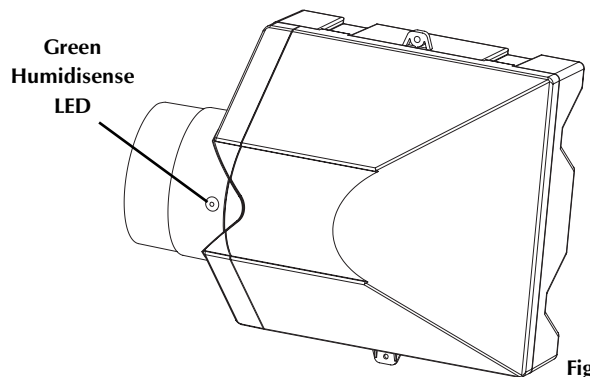

Figure 24
5. Depending on your furnace type the unit should turn on within approx 60 seconds of the furnace entering the HEATING cycle. You will know because the green "HUMIDISENSE" LED on the front of unit will turn on (fig 24.) If the unit does not turn on refer to the trouble shooting section in the Maintenance Guide.
7. After about 5 minutes of running turn your thermostat down so the furnace cycles off. IT IS IMPORTANT TO ALLOW THE FURNACE TO CYCLE OFF VIA THE THERMOSTAT AND NOT THE MAIN FURNACE SWITCH, AS ALL FURNACES WILL RUN A COOL DOWN TO ALLOW HEAT TO CIRCULATE OUT OF THE FURNACE HEATING CHAMBER. The humidifier will sense the temperature drop and shut off (this will occur depending on your furnace, from 60 seconds before the furnace shuts off to 60 seconds after the furnace shuts off.) You will know the humidifier has shut off because the green "HUMIDISENSE" LED on the front of the humidifier will shut off. (fig. 24) The off cycle of the "HUMIDISENSE" CONTROL IS ADJUSTABLE. See section "CUSTOMIZING HUMIDISENSE TO YOUR FURNACE" below if the humidifier does not shut off with your furnace.
4. Once the HUMIDISENSE control senses heat the humidifier will turn ON. You will know because the green “HUMIDISENSE” LED (fig. 24) on the front of the humidifier will turn ON.
6. After your furnace has completed the heating cycle and shut off (by the thermostat) the humidifier will cycle OFF. You will know because the green “HUMIDISENSE” LED (fig. 24) on the front of the humidifier will turn OFF